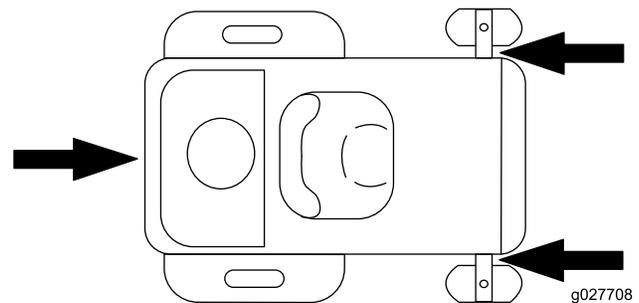

Figure 14
5. Tie down the machine near the front caster wheels and the rear bumper (Figure 14).